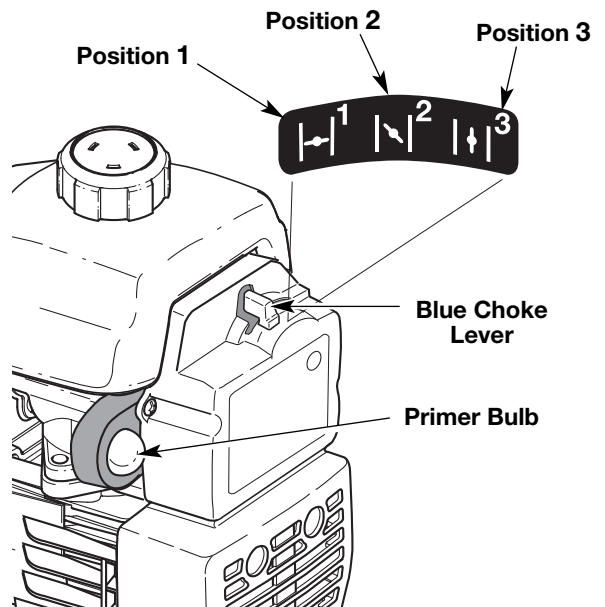

Fig. 7
2. Fully press and release the primer bulb 10 times, slowly. Some amount of fuel should be visible in the primer bulb and fuel lines (Fig. 7). If you can't see fuel in the bulb, press and release the bulb as many times as it takes before you can see fuel in it.
3. Place the blue choke lever in **Position 1** (Fig. 7).
8. Once the engine is warmed up, place the blue choke lever in **Position 3** (Fig. 7). The unit is ready for use.
IF... The engine hesitates, return choke lever to Position 2 (Fig. 7) and continue warm up.